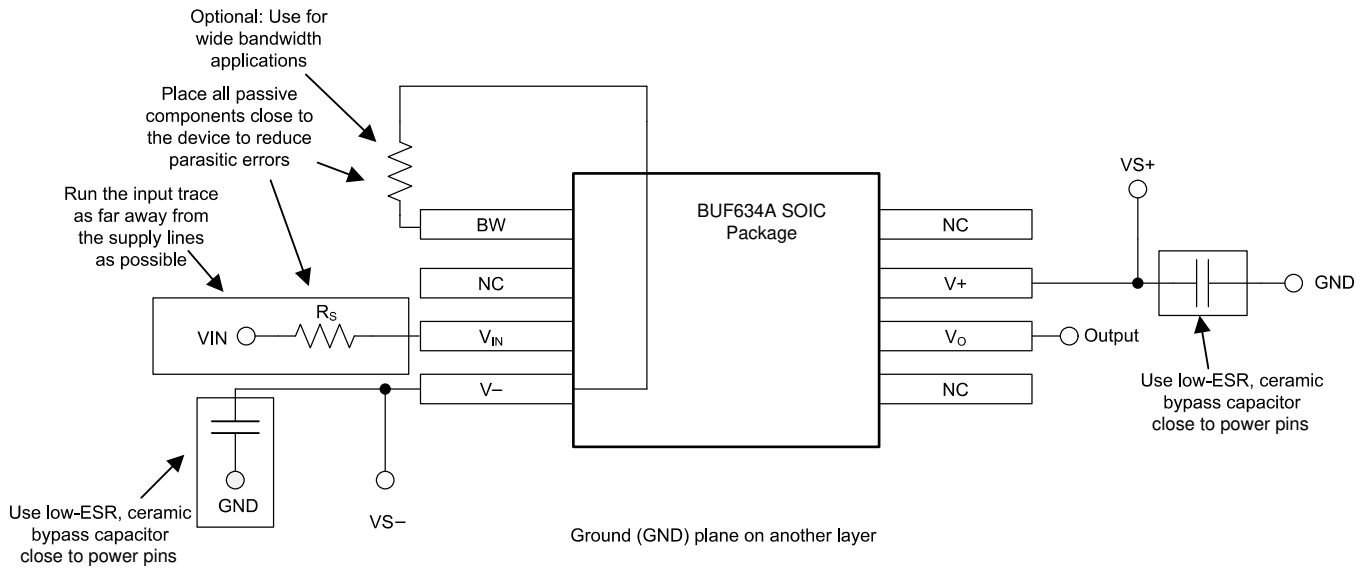

Figure 48. BUF634A Layout Example (SOIC)
- Place the external components as close to the device as possible, as illustrated in Figure 48.